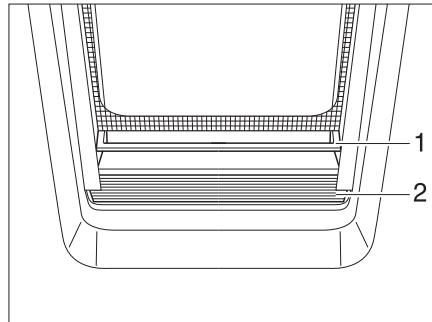

Fig. 28 Roman shade
- Grip the Roman shade (Bild 28,2) in the middle of the holding bar (Bild 28,1), pull it upwards and then release it at the desired height. The Roman shade will stay at this height.